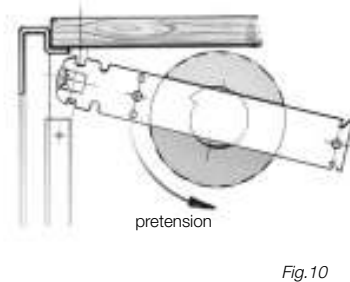

Fig. 10
- Pre-tension the rolled-up shutter carpet in an anticlockwise direction in accordance with Table 1 (Fig. 10)